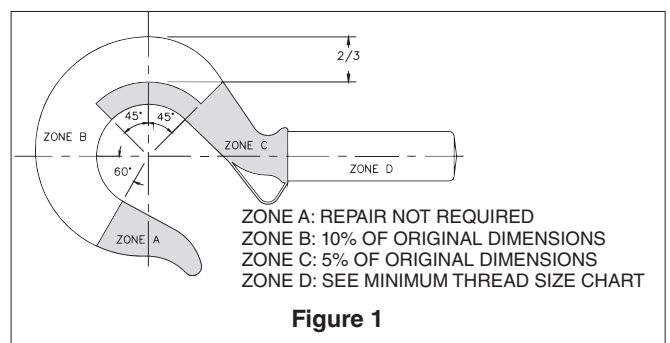

Figure 1
- Always make sure hook supports the load. The latch must never support the load (See Figures 1 & 2).
- Never use a hook that is worn beyond the limits shown in Figure 1.
- Remove from service any hook with a crack, nick, or gouge. Hooks with a nick or gouge shall be repaired by grinding lengthwise, following the contour of the hook, provided that the reduced dimension is within the limits shown in Figure 1. Contact Crosby Engineering to evaluate any crack.